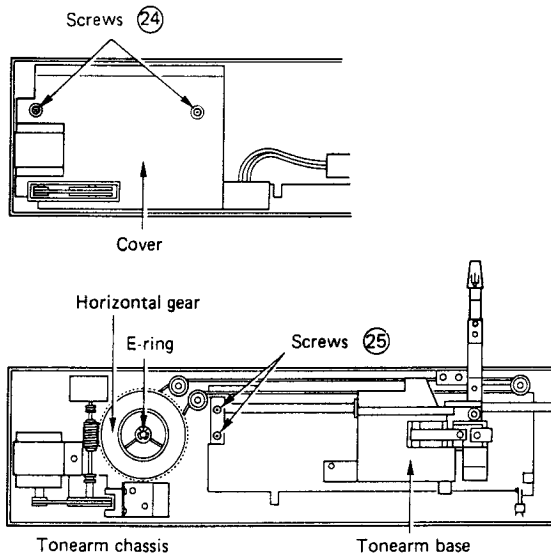

Fig. 19
- 2) As shown in Fig. 19, remove the two screws (24) , and then remove the cover.
- 3) As shown in Fig. 19, remove the two screws (25) , and then remove the guide shaft.